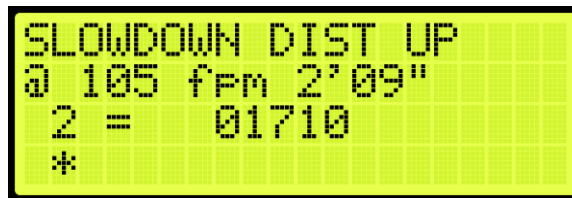

Figure 346: SLOWDOWN DISTANCE UP Menu
3. Select the slowdown distance for the speed the car is running at. Scroll to find the correct slowdown distance to adjust (See Figure 346).